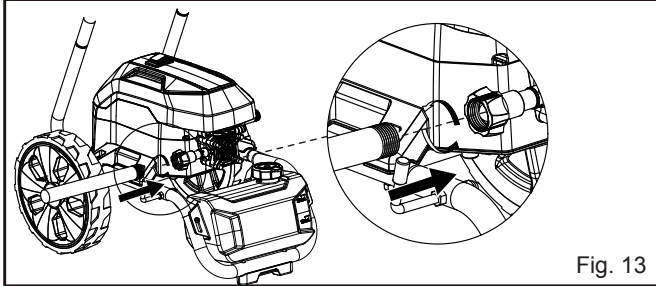

Fig. 13
- Connect the water supply hose (not supplied) to the water inlet (Fig. 13). The supply hose must have an internal diameter less than 1/2" (12.7 mm) and must be reinforced. The length can not be greater than 8 m. The water supply must be at least equal to the washer delivery capacity.